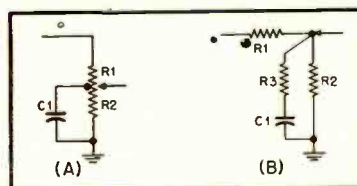

Fig. 3. Volume control with single tap, allowing for one bass turnover frequency.
If C_1 is now connected from tap to ground as at (A) in Fig. 3, we would have a definite attenuation of voltage at some desired center frequency. Above this frequency, the reactance of C_1 decreases at a constant rate, attenuating the highs. Below this frequency, the reactance of C_1 increases at a constant rate, thus effectively boosting the bass (by attenuating the high frequencies). Since this bass-boost circuit should not function at the expense of losing treble,